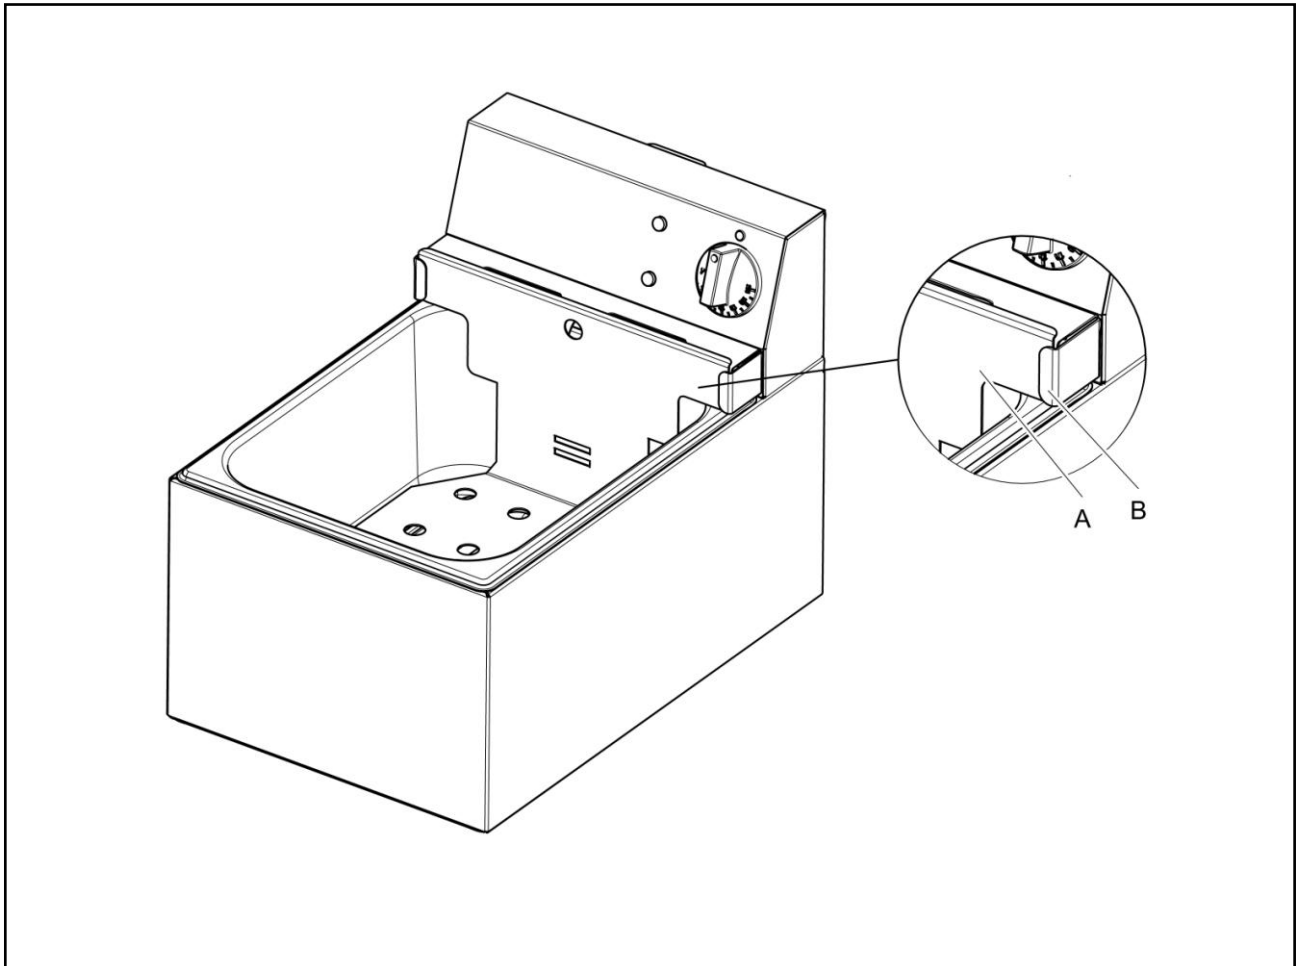

Fig 3
Replace the control head and base plate, ensuring the base plate Fig 3 (A) slots behind the basket support (B).